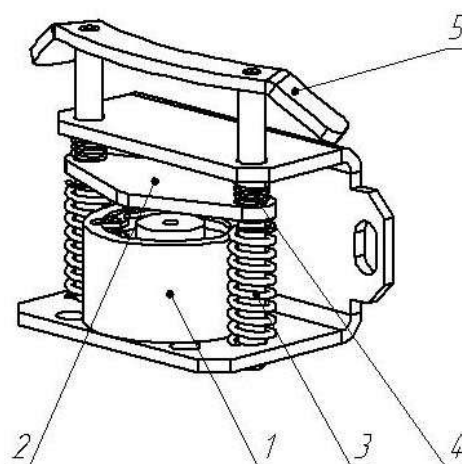
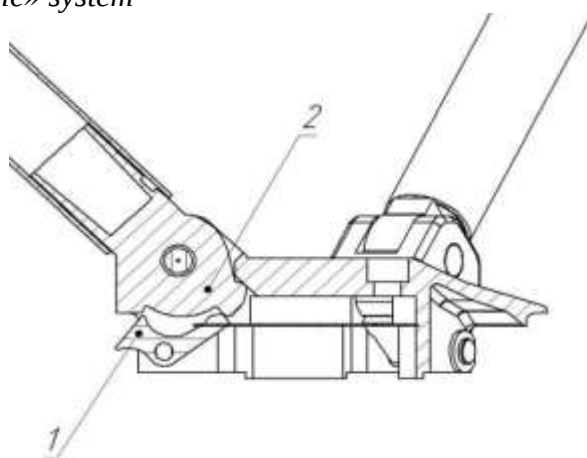

Fig. 3a — «Antipanic» system
Fig.3b. Tripod
“Antipanic” system (fig 3a) consists of the base frame, *electromagnet* (1), *pushing bar* (5) with *compensating springs* (3), adjusting channels are made in the base frame. When electromagnet is switched on, it attracts *the plate* (2) that in turn using *compensating springs* (3) and (4) holds the *push bar* (5). When the electric supply interrupts the push bar moving by springs hits *the pin* (1) (fig. 3b) that disengages from the slot of *the rod* (2). After the electric supply is recommenced, the servomechanism switches on and the rod automatically set into the working position.